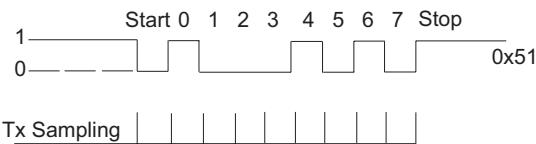

Figure 5. Tx Sampling While Transmitting Data
To transmit a character, the start value of the timer register is set to zero and the timer reload value is set to generate interrupts at one-bit intervals (see Figure 5 on page 5).
2. The `Z_Put_Bit()` function reads the `TX_DATA` register, loads the data into an intermediate buffer, and shifts out the data to Port A0 (one bit at a time) from bit 0 to bit 7. The `Z_Put_Bit()` function also increments the `Tx_Bit_Count` after each bit is transmitted (see Figure 5 on page 5).